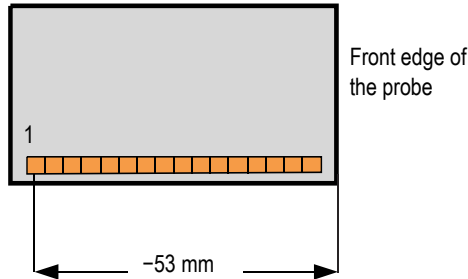

Figure 4-4 The probe reference point measurement
- a) In the **Ref. Point** button, enter the probe reference point, which is the distance between the front of the probe and the center of the first probe element (see Figure 4-4 on page 97).